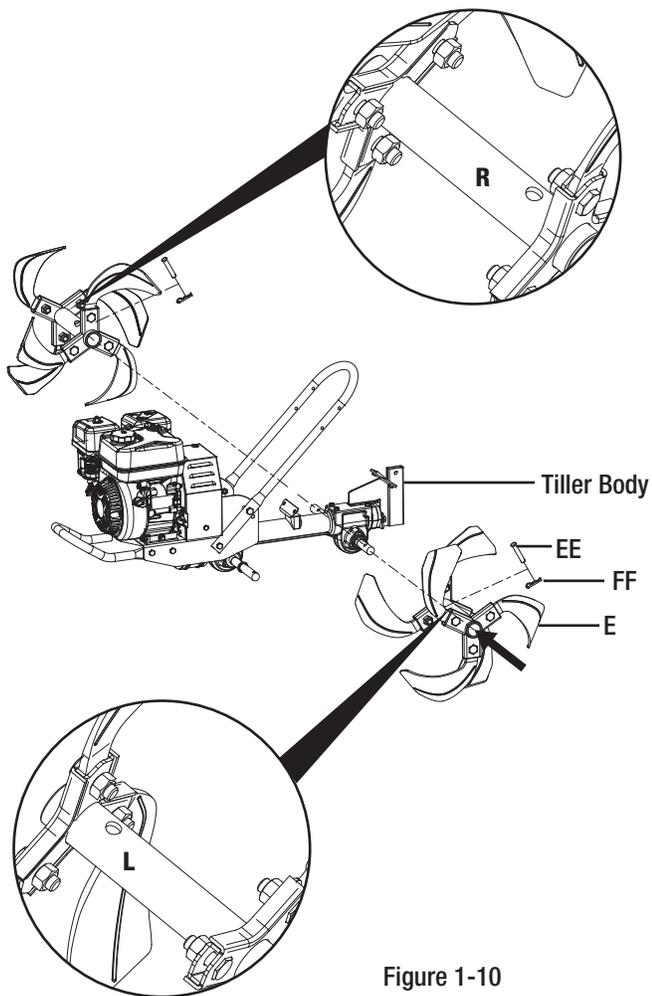

Figure 1-10
- Insert tines (E) on each side through the tine axle located on the rear of the tiller. Align pre-drilled holes and insert clevis pin (EE) then insert cotter pin (FF) to secure in place. See Figure 1-10.